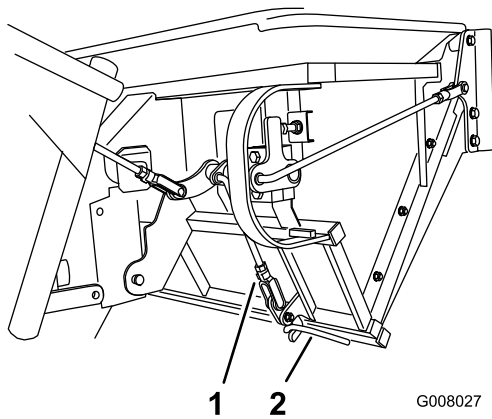

Figure 41
4. Ensure that the latches completely engage and contacts the latch rod welded to the door (Figure 41).